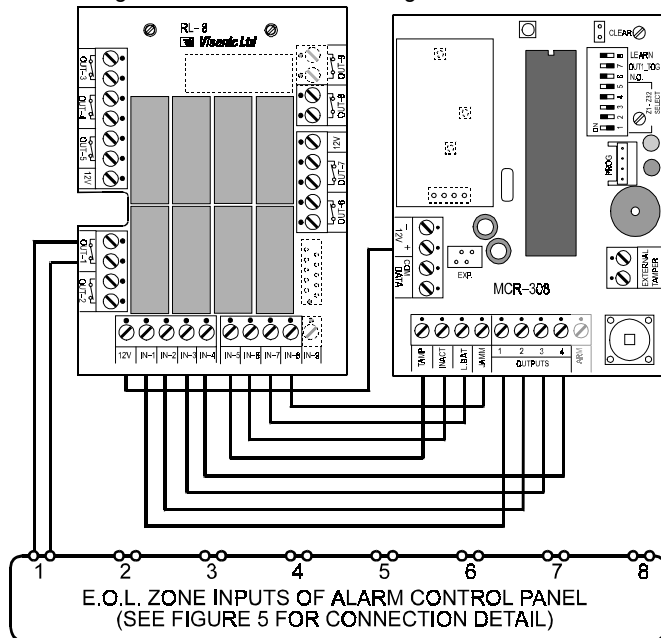
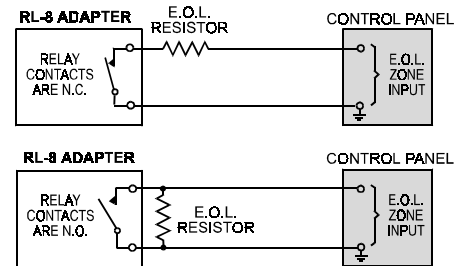

Figure 4. Typical Wiring Configuration
Figure 5. Wiring E.O.L. Zones
Each relay operating coil in the RL-8 is permanently connected to the 12V terminal of the unit. Applying 12 VDC (+) to the 12V terminal therefore maintains one end of each coil at 12 V (+) potential. Each relay will be energized if the other end of its coil is grounded through the appropriate input. If wiring is completed as in Figure 4, and provided that the MCR-308 outputs are defined as normally open (N.O.), the other end of the coil will be pulled to ground by the respective open-collector output of the MCR-308.
Refer to Figure 4 and make the following connections:
- C. Connect the output terminals of each relay to the corresponding zone input of the alarm control panel. Figure 4 shows just one output connected as an example. All other 7 outputs may be similarly wired. Remember to connect an E.O.L. resistor of the correct value, as required for the particular control panel (see Figure 5).